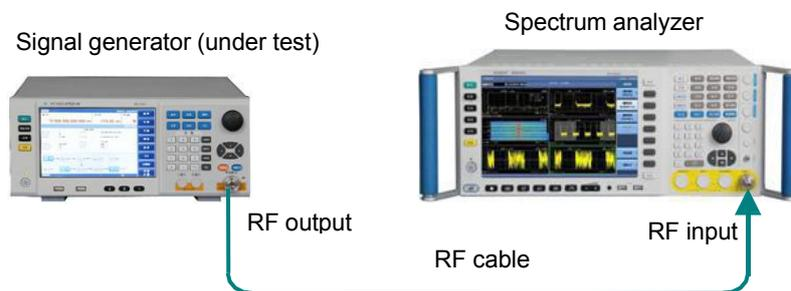

Figure 7.4 Diagram of connection via spectrum analyzer
1. Connect the equipment as per Figure 7.4, start it up and warm it up for at least 30 min.
1. Connect equipment as shown in Figure 7.4, start up the instrument, and warm it up for at least 30 min.